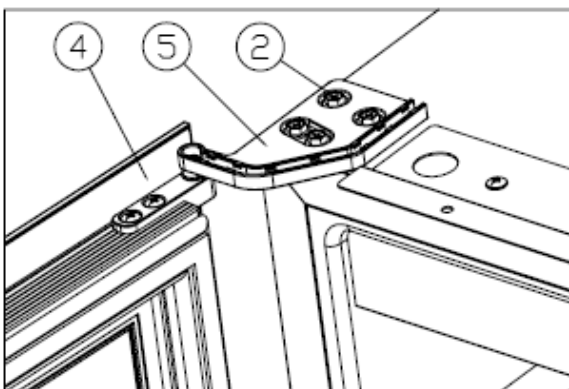

Figure 6
Turn the door (4) 180 degrees, and insert the right lower hinge (5), screw tight M5*16 screws (2). [Figure 6]